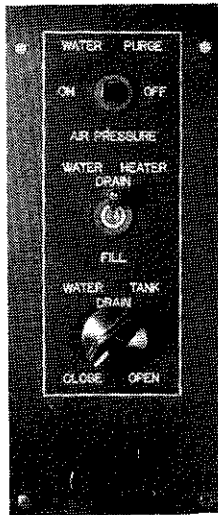

Figure 5-2. Water Purge Air Pressure, Water Heater Drain and Water Tank Drain Controls
1. Empty the Water Tank(s) — To drain tank(s), set the **Water Tank Drain** control (on the control panel in the bed base cabinet) to **Open**, figure 5-2. After tank(s) is completely drained turn **Water Tank Drain** control to **Closed**.
The following procedures show the use of the various drain valves, controls and pressurized air system to remove the water from the plumbing and appliances in the fresh water supply system. Refer to figures 5-2 through 5-5 for the location of controls and valves.
4. Turn the **Water Tank Drain** control to **Open**, and the **Water Heater** switch to **Drain**. Both controls are located on a panel in the bed base cabinet, figure 5-2.
7. Set **Water Purge Air Pressure** switch, figure 5-2, to **On** to activate the solenoid which applies air pressure to the input water line to purge the water system. Note that it may be necessary to start the engine to build up air pressure.